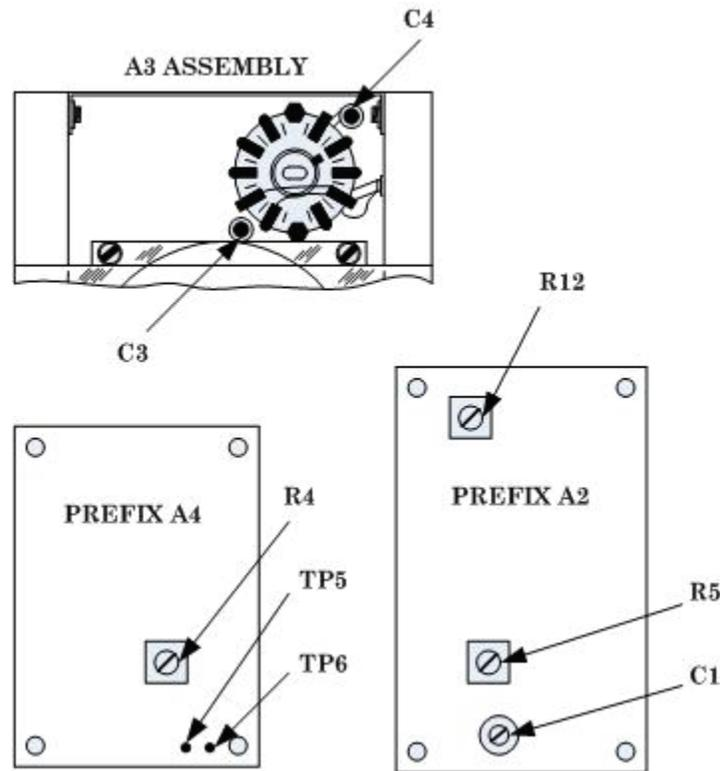

Figure 3. AN/URM-127A - adjustments
(5) Adjust A2R5 (fig. 3) until audio analyzer indicates 12.0 V ac (R).
(6) Adjust **OUTPUT CONTROL** until audio analyzer indicates 10.0 V ac.
(7) Adjust A2R12 (fig. 3) until **VOLTS RMS** meter indicates **1.0** (R).
- (19) Set frequency dial to **200**.
- (20) Adjust A3C3 and A3C4 (fig. 3) until audio analyzer indicates 20.000 kHz and **VOLTS RMS** meter indicates at least 1.0 (R).
- (21) Repeat (16) through (20) above for best in-tolerance condition.
- (22) Repeat a (4) and if audio analyzer does not indicate within limits specified, perform (23) through (26) below.
- (23) Set **FREQ RANGE MULTIPLIER** switch to **X1K** and frequency dial to **200**.
- (24) Adjust A2C1 (fig. 3) until audio analyzer indicates 200.00 kHz (R).
- (25) If **VOLTS RMS** meter indicates more than 1.2, adjust A2R5 (fig. 3) for 1.2 indication on **VOLTS RMS** meter (R).
- (26) Repeat a (1) through (4) and, if required, (16) through (25) above for best intolerance condition.